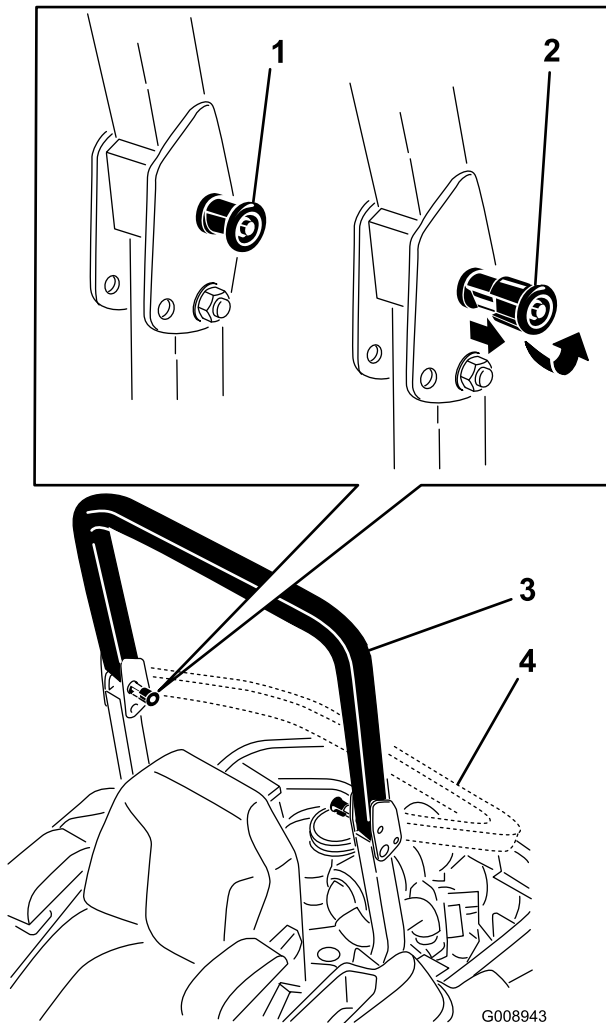

Figure 8
2. Pull both knobs out and rotate them 90 degrees so they are not engaged (Figure 8).
- Lower the roll bar to the down position (Figure 8).
- To raise the roll bar, raise the roll bar to the operate position and rotate the knobs so that they move partially into the grooves (Figure 8).
- Raise the roll bar to the full upright position while pushing on the upper roll bar so that the pins snap into position when the holes align with the pins (Figure 8).